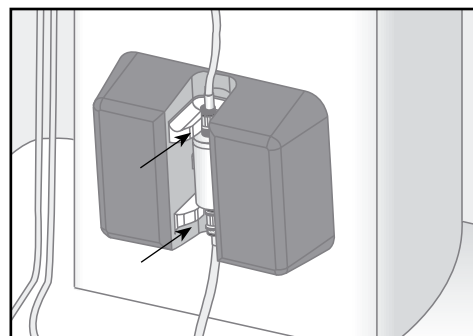

Figure 31: Separation column in separation column holder.
3. Insert the separation column into the separation column holder as shown (see fig. 31).